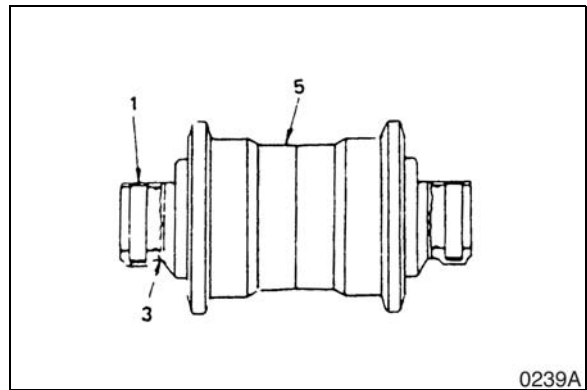

Figure 35
- Install the collar (3, Figure 35), O-ring (2), and pin (1) on the remaining side.